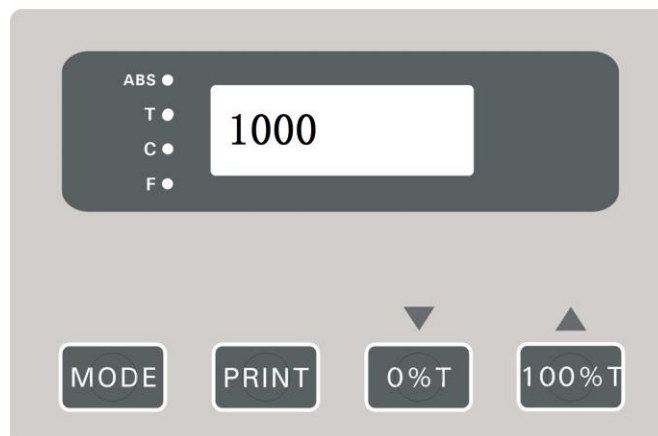

Fig.1-15
- b. If the current F value is 1000 , press the **△/0Abs/100%T** key, until it goes up to 1500. (Fig.1-15)